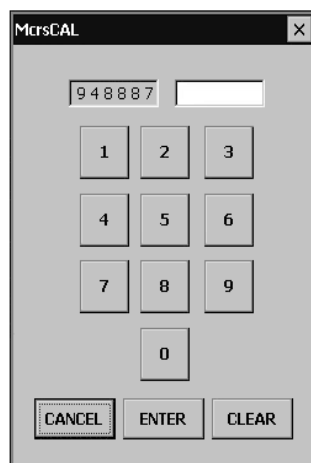

Figure 3-4: The CAL Password Entry Screen
4. The version of the CAL included with the OCC presents the password screen shown in Figure 3-4 below, under the following conditions: